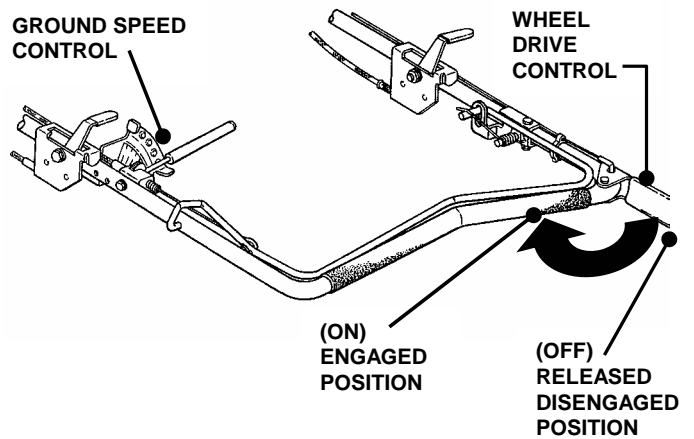

FIGURE 2.5
1. Move ground speed control to the desired speed position. See Figure 2.5.
2. Move wheel drive control against handle to engage wheel drive and propel mower forward. Forward speed can be adjusted while the mower is moving by changing position of the ground speed control. See Figure 2.5.